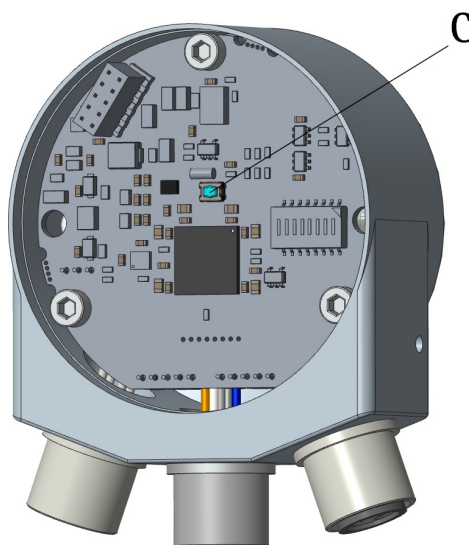

Figure 7 – Tactile switch
4.11 Tactile switch (Figure 7)